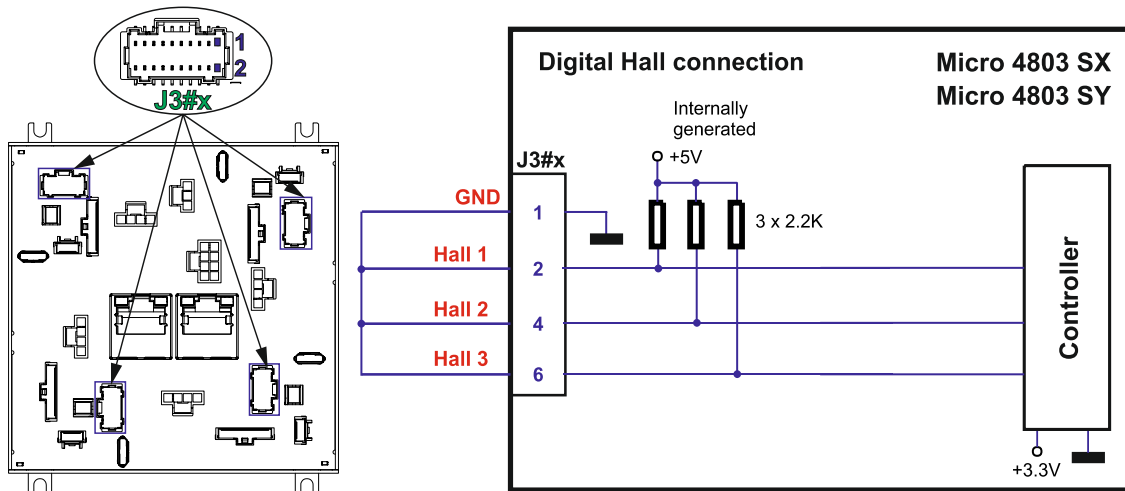

Figure 29 Temporary connection during power-on to invalidate the Setup table for Micro 4803
- Hardware2 – by temporary connecting all digital Hall inputs to GND, during the power-on for about 1 second (Figure 29). This option is particularly useful when it is not possible to communicate with the drive.